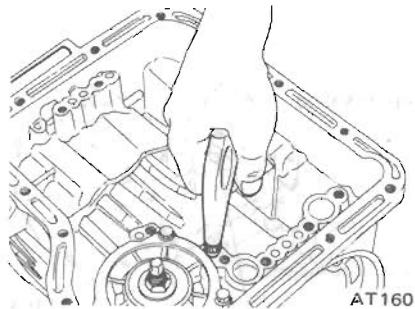

Fig. AT-93 Testing piston (Apply side)
3. Blow compressed air from apply-side of piston to test for definite piston operation as shown in Figure AT-93.